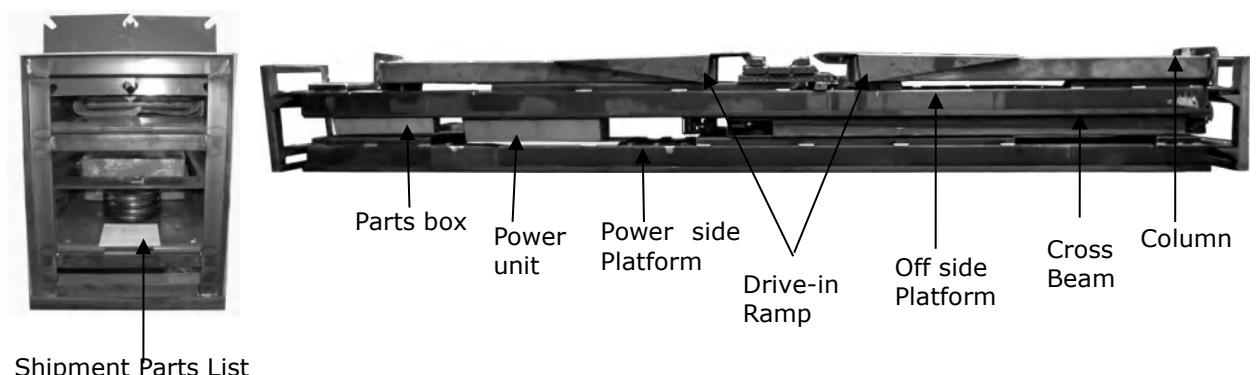

Fig. 7
3. Open the outer packing carefully (**See Fig. 7**).